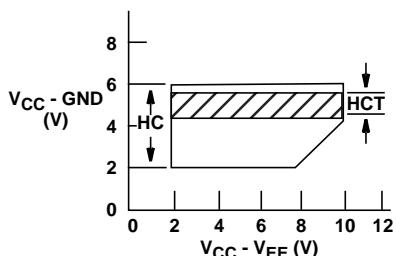

FIGURE 2.
In addition these devices contain logic-level translation circuits that provide for analog signal switching of voltages between $\pm 5V$ via 5V logic. Each switch is turned on by a high-level voltage on its select input (S) when the common Enable (E) is Low. A High E disables all switches. The digital inputs can swing between V_{CC} and GND; the analog inputs/outputs can swing between V_{CC} as a positive limit and V_{EE} as a negative limit. Voltage ranges are shown in Figures 2 and 3.
HC, HCT Types (Figure 2)	2V to 10V